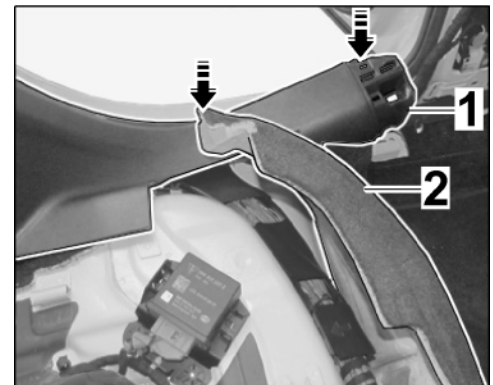

Figure 28
5.1 Align floor covering in the area of the rear seats and thread it in under (inner) door sill trim. ⇒ *Figure 28*